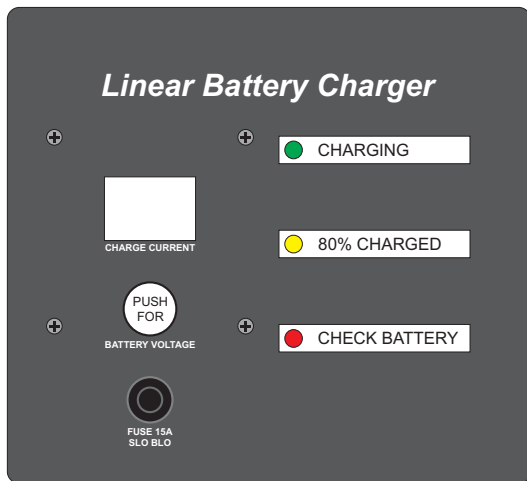

Figure 3-8. Battery Charger Faceplate
- ❑ Plug the extension cord into a grounded 120 VAC outlet. Verify that the green CHARGING indicator LED is lit on the battery charger faceplate (Figure 3-8).